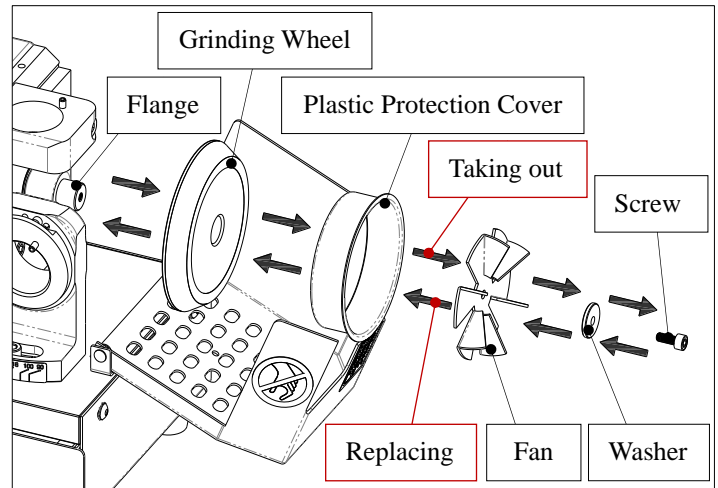

Fig. 20-3
- ④ Use hexagon wrench to loosen the screw on the fan and take out the grinding wheel. (Fig. 20-3)
- ⑤ Use wiper to clean the scraps on flange and washer before replacing new grinding wheel.
- ⑥ Assembling the grinding wheel, plastic protection cover, fan, washer with screw. (Fig. 20-3)